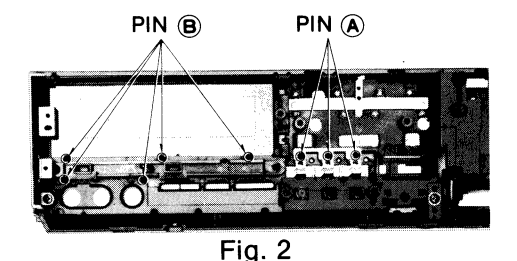

Fig. 2
To remove this part, first, remove the four lugs on the Ornament Plate from the Front Panel. Then, while pulling part (C) of the Ornament Plate toward the front, heat the seven pins (A) and (B) with a soldering iron. (Refer to the Fig. 2.)